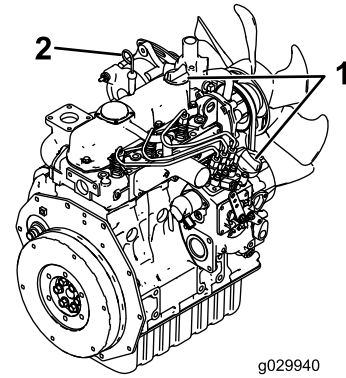

Figure 43
4. Clean the area around the oil dipstick and oil-fill cap (Figure 43).